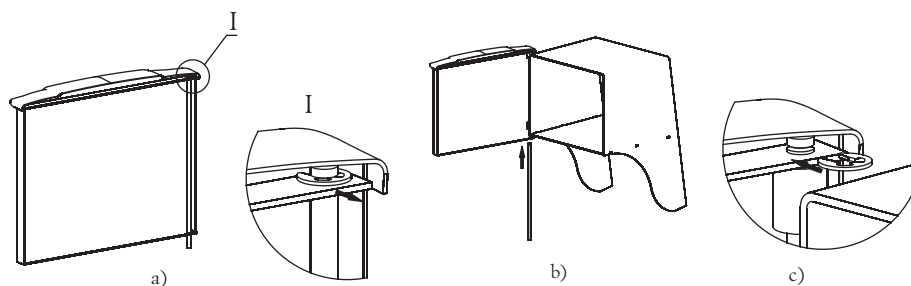

Figure 9. Assembly of the door under installation of the stove «Tunguska»
1. Remove a stop quick-detachable collar, then remove the axis out of the door, see figure 9.a;
3. Set an axis from bottom to top through holes. Place a groove under a collar in the top part of an axis, see figure 9.b;
4. Install a stop quick-detachable collar in a groove on an axis, see figure 9.c.